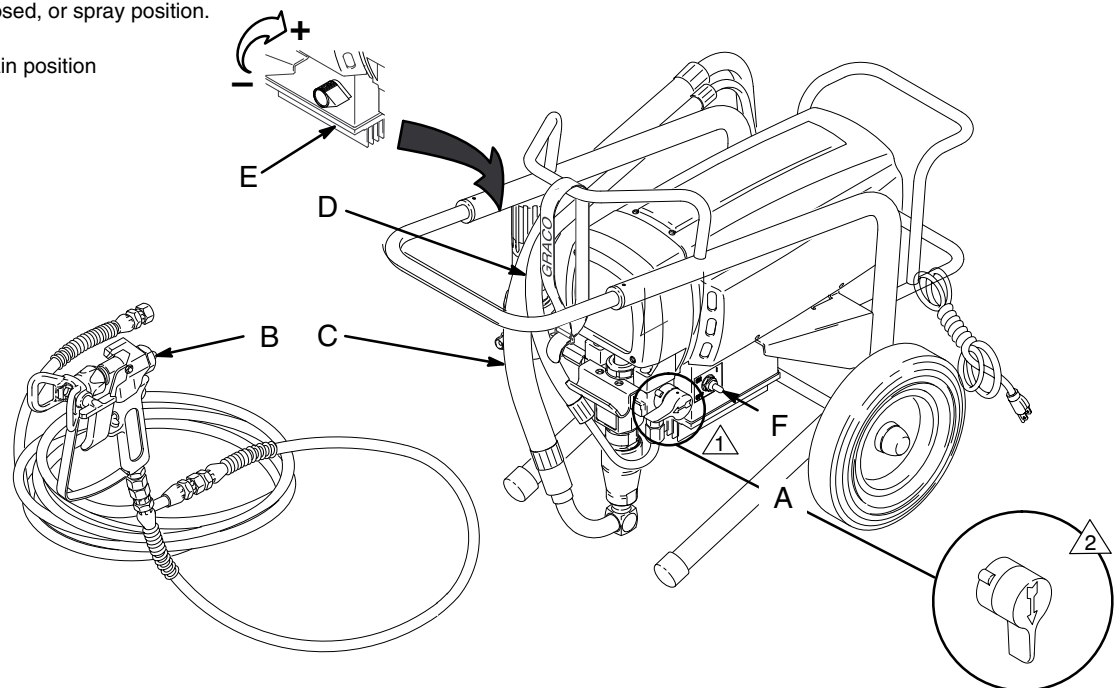

Fig. 8
1. **Open pressure drain valve (A).** See Fig. 8.
3. **Put suction hose or tube (C) into paint.** If you are pumping from a 1 gallon (5 liter) pail, push drain hose (D) down below top of pail to avoid splashing paint when drain valve is opened.